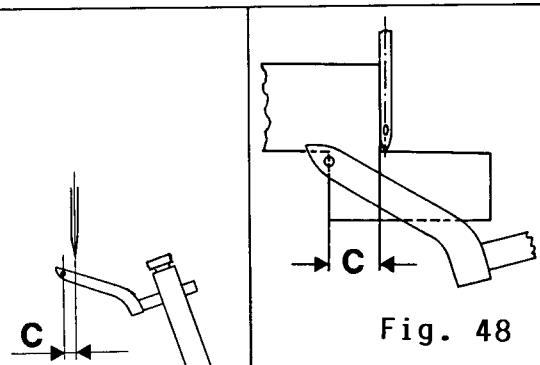
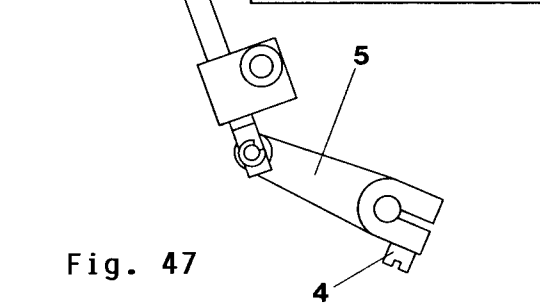

Fig. 48
Fig. 47
When the right looper is at its far left position the clearance between the looper eye and the left needle must be 3.54 mm. For this adjustment loosen screw 4 of the right looper arm and position drive arm 5 up or down (see Fig. 47). Adjust, using adjustment gauge (dimension C, see Fig. 48). Afterwards tighten screw 4 very firmly.
- * For all following tests insert plug of Metratester in mains socket (if necessary turn until yellow lamp lights up, **see Fig. 48**).